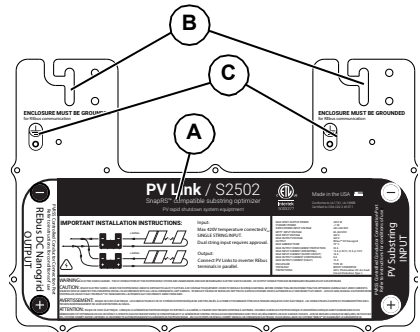

Figure 5-1. Grounding Terminal Location
See Figure 5-1. If mounting PV Link underneath an array to metallic PV racking, install the PV Link with label (A) facing up. Attachment flange slots (B) accept fasteners up to M8 or 5/16" in diameter.
- See Figure 5-1. Fasten to grounding terminal (C) the equipment grounding conductor using a field supplied lug.
- See Figure 5-1. Use two rail-compatible fasteners (D) to secure the PV Link to the grounded rail.
- Use a grounding washer (E) between the rail and attachment flange to penetrate the rail's anodized coating.